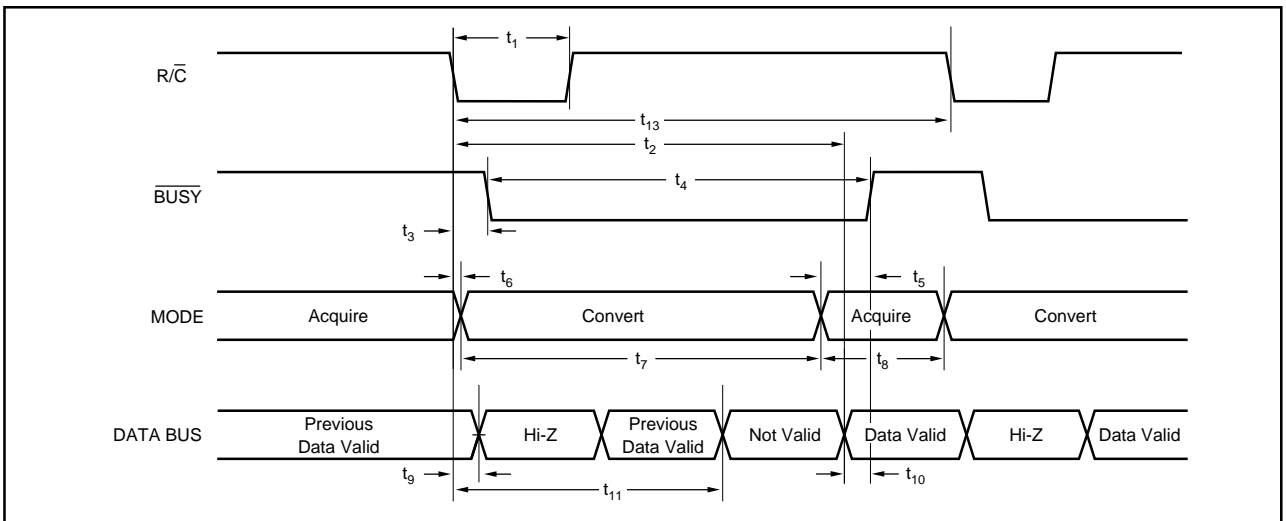

FIGURE 3. Conversion Timing with Outputs Enabled after Conversion (\overline{CS} Tied LOW.)
Table II for a summary of \overline{CS} , $\overline{R/C}$, and \overline{BUSY} states and Figures 3 through 5 for timing diagrams.
NOTE: (1) See Figures 3 and 4 for constraints on data valid from conversion "n-1".
After conversion 'n' is completed and the output registers have been updated, \overline{BUSY} (pin 26) will go HIGH. Valid data from conversion 'n' will be available on D15-D0 (pin 6-13 and 15-22). \overline{BUSY} going HIGH can be used to latch the data. Refer to Table IV and Figures 3 and 5 for timing specifications.
After conversion 'n' has been initiated, valid data from conversion 'n-1' can be read and will be valid up to $7\mu s$ after the start of conversion 'n'. Do not attempt to read data from $7\mu s$ after the start of conversion 'n' until \overline{BUSY} (pin 26) goes HIGH; this may result in reading invalid data. Refer to Table IV and Figures 3 and 5 for timing specifications.
The number of control lines can be reduced by tying \overline{CS} LOW while using R/\overline{C} to initiate conversions and activate the output mode of the converter. See Figure 3.